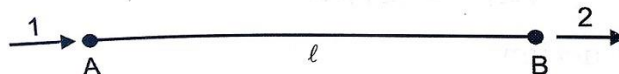

Figure 2.7
8. a) Develop the stiffness matrix of the beam as shown in Figure 2.7 with 2 coordinate system